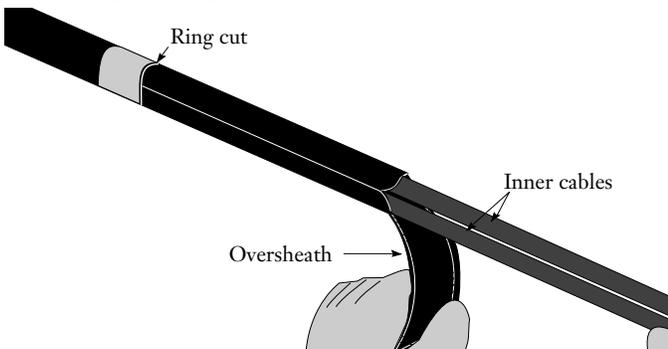

Figure 8
5.12 Starting at the end of the cable, separate the oversheath from the inner fiber optic and copper cables back to the ring cut (Figure 8).